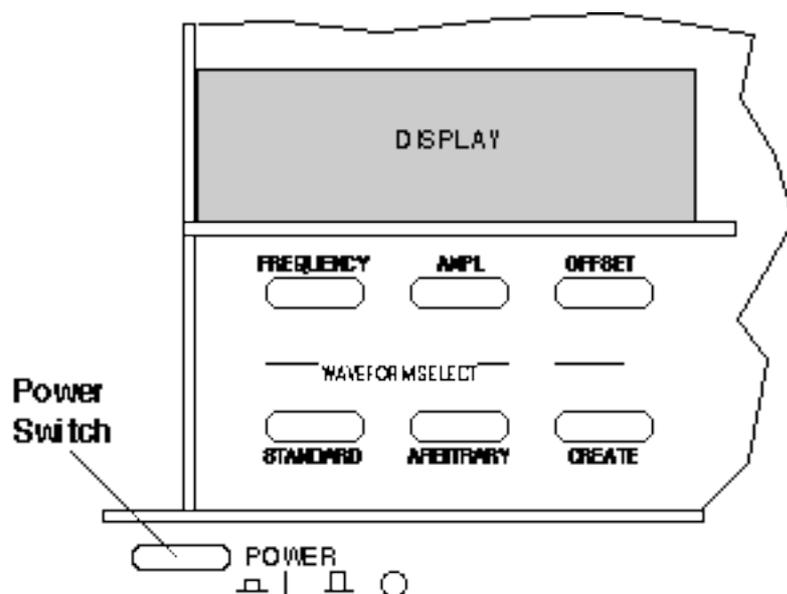

Figure 2-3. Power Switch
2. Press the "POWER" On/Off switch in to turn the unit on (figure 2-3).